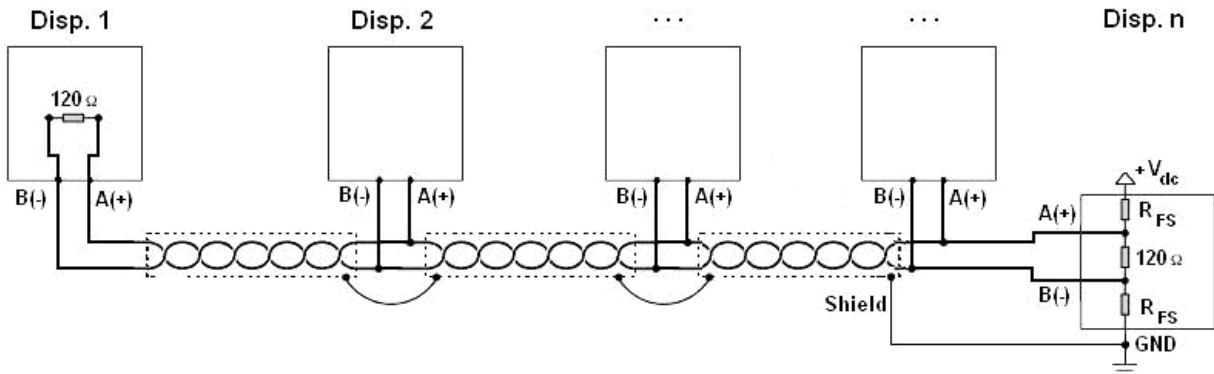

Figure 1. Electrical diagram of RS485 connection
- The shielding can be connected into a single point of the entire network (as shown in Figure 1) or both its ends, however it's important that all the masses have the same potential, in order to avoid the forming of current rings.
- On the RS485 network normally one connects 2 termination resistances equal to the characteristic impedance of the cable (typically 120 Ω , see Figure 1), ONLY on the 2 devices which are at the 2 ends of the ring connection (for example indicator and last device). The terminal resistance is not supplied with the ports of the indicator.
- To create a resistive divider which maintains this difference of potential also when all the transmitters are disabled, inert in the RS485 port of the indicator where there are the termination resistances, the polarisation or fail-safe resistances (R_{FS} in Figure 1). The value of these resistances is between 390 Ω and 2,2 k Ω .